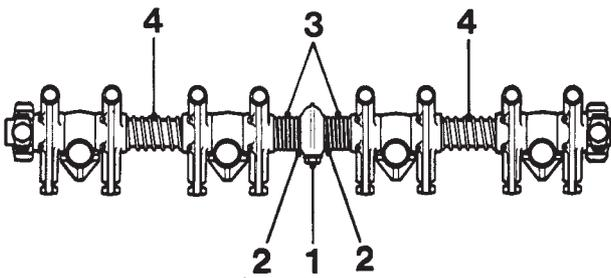

Fig.8 Rocker shaft
24. If the rocker shaft has been dismantled, assemble it in the sequence shown in fig.8.